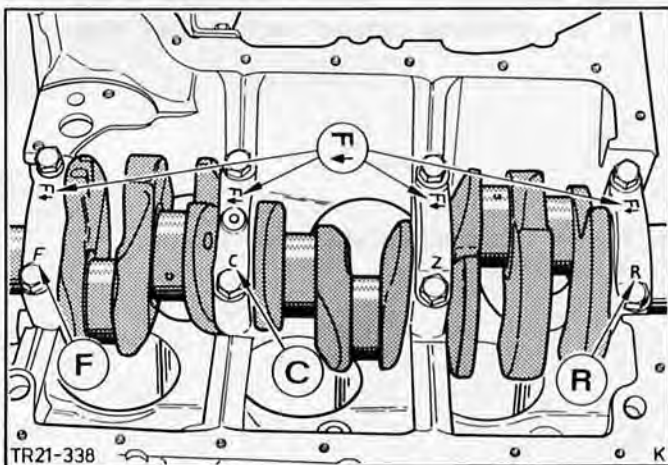

Fig.38. Markings on main bearing caps.
25. Check that all the big end and main bearing caps are marked for refitting later, Fig.38.